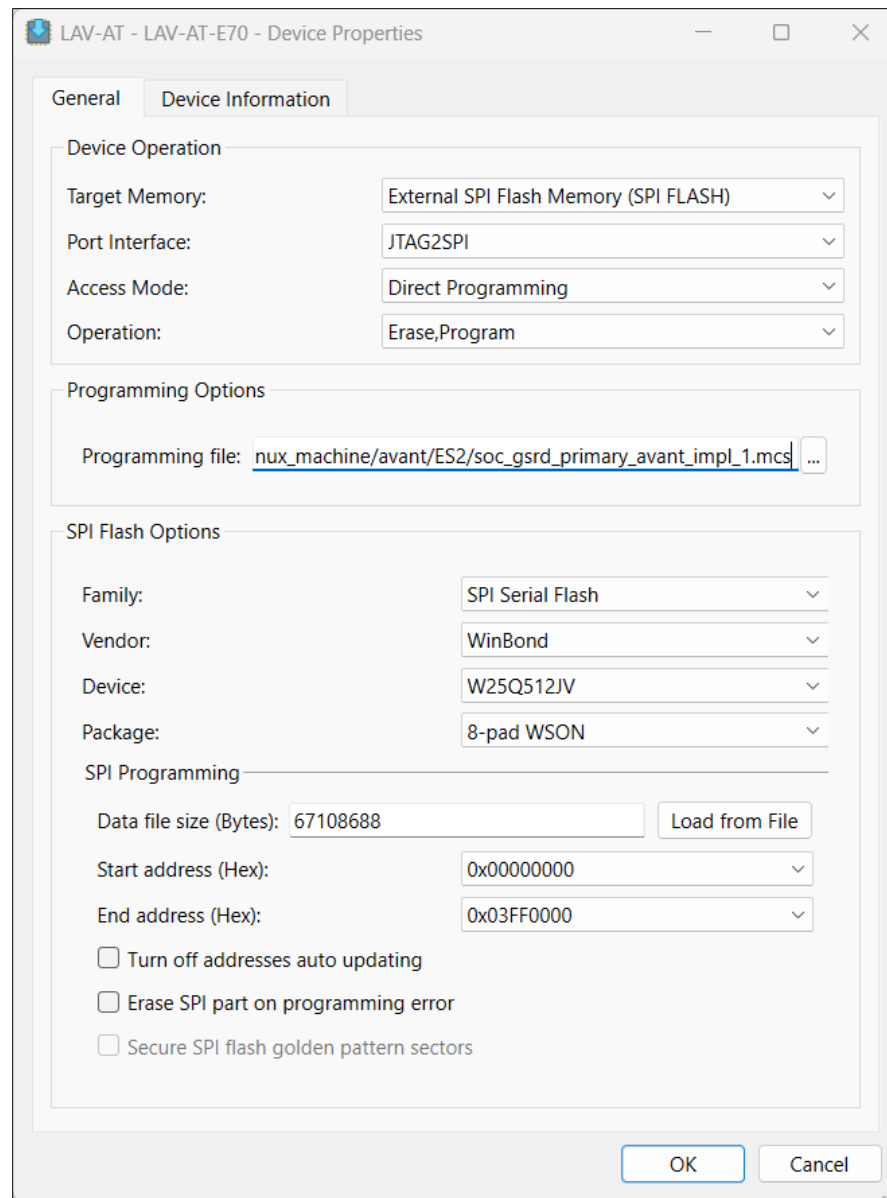

Figure 6.29. Device Properties Window to Setup MCS Programming File
3. To program the **multiboot_system.mcs** file, locate the file in the executables folder that you downloaded and add the file in the Programming file area. The Start Address and End Address are allocated automatically. Confirm the settings as shown in Figure 6.29.